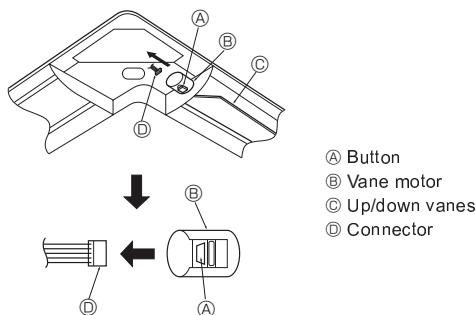

Fig. 6-11
• Take the lead wires CN4Y (white) and CN6Y (red) of the i-see sensor corner panel ⑦ from the side of the electrical box on the unit and make sure to connect them to the connector of the controller board.
• Lead wires of the i-see sensor corner panel ⑦ should be fixed at the rib of the grille with the fastener ④ so that there is no slack.
• Lead wires should be held together with the lead wires of the unit and fixed with 2 of the fastener ④ so that there is no slack.
* The i-see sensor corner panel should be fixed onto the grille ① with screw ⑥.
6.7. Locking the up/down airflow direction (Fig. 6-11)